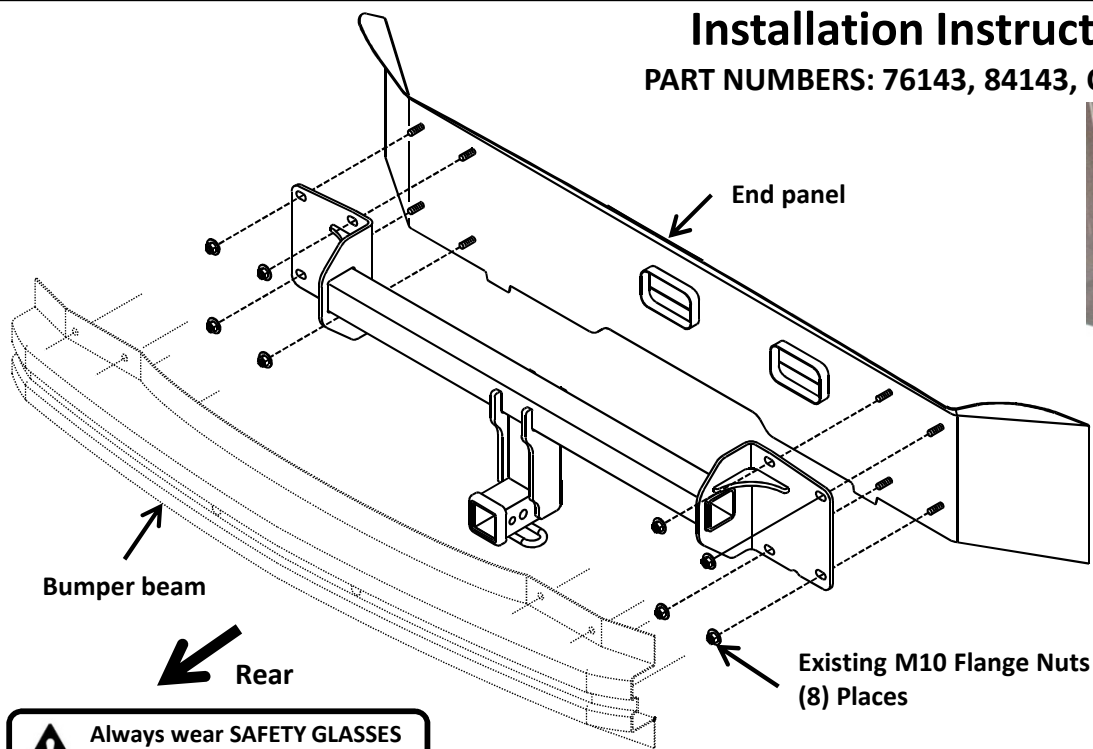

Figure 1
6. **Install hitch** - Raise hitch into position aligning holes in hitch with studs on end panel. Loosely reinstall the existing (8) hex flange nuts onto bumper studs, (4) per side. **See Figure 1.**
6. **Install hitch** - Raise hitch into position aligning holes in hitch with studs on end panel. Loosely reinstall the existing (8) hex flange nuts onto bumper studs, (4) per side. See Figure 1.